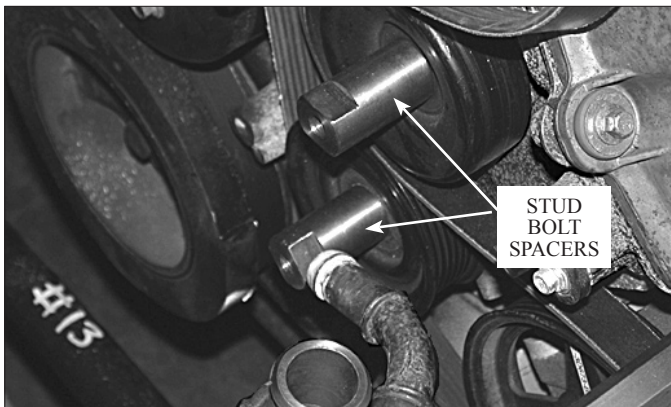

Fig. 6-a
- B. Locate the two supplied stud bolt spacers (see Figs. 6-a, 6-b) in the S/C mounting plate assembly. Remove the factory screws retaining the idler pulleys on the driver's side of the engine and replace with the stud spacers.
This figure is just for reference. The small idler pulley mounting bracket will need to be installed at the same time as the S/C Mounting Plate. (See Fig. 6-d.)